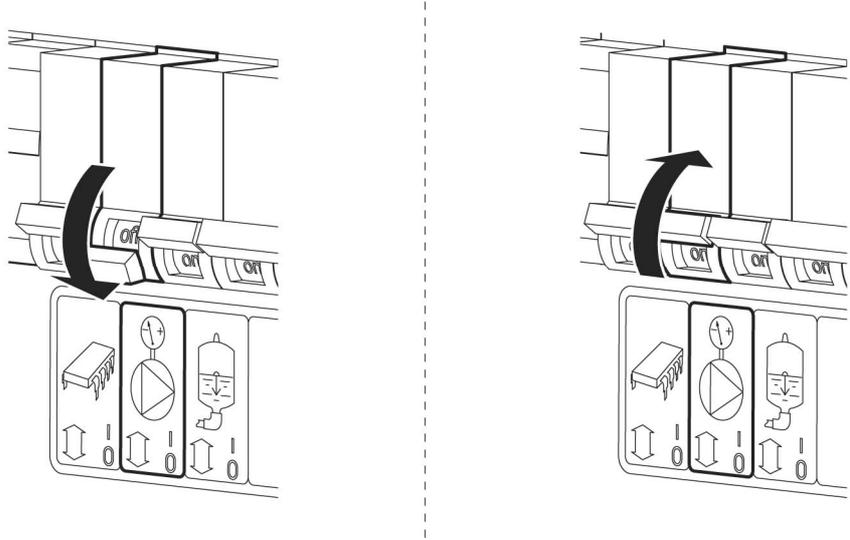

Figure 1: The vacuum switch
1. Set the vacuum pump switch (fig. 1/1) to the down position.
10. Set the vacuum pump switch (fig. 1/1) to the up position.